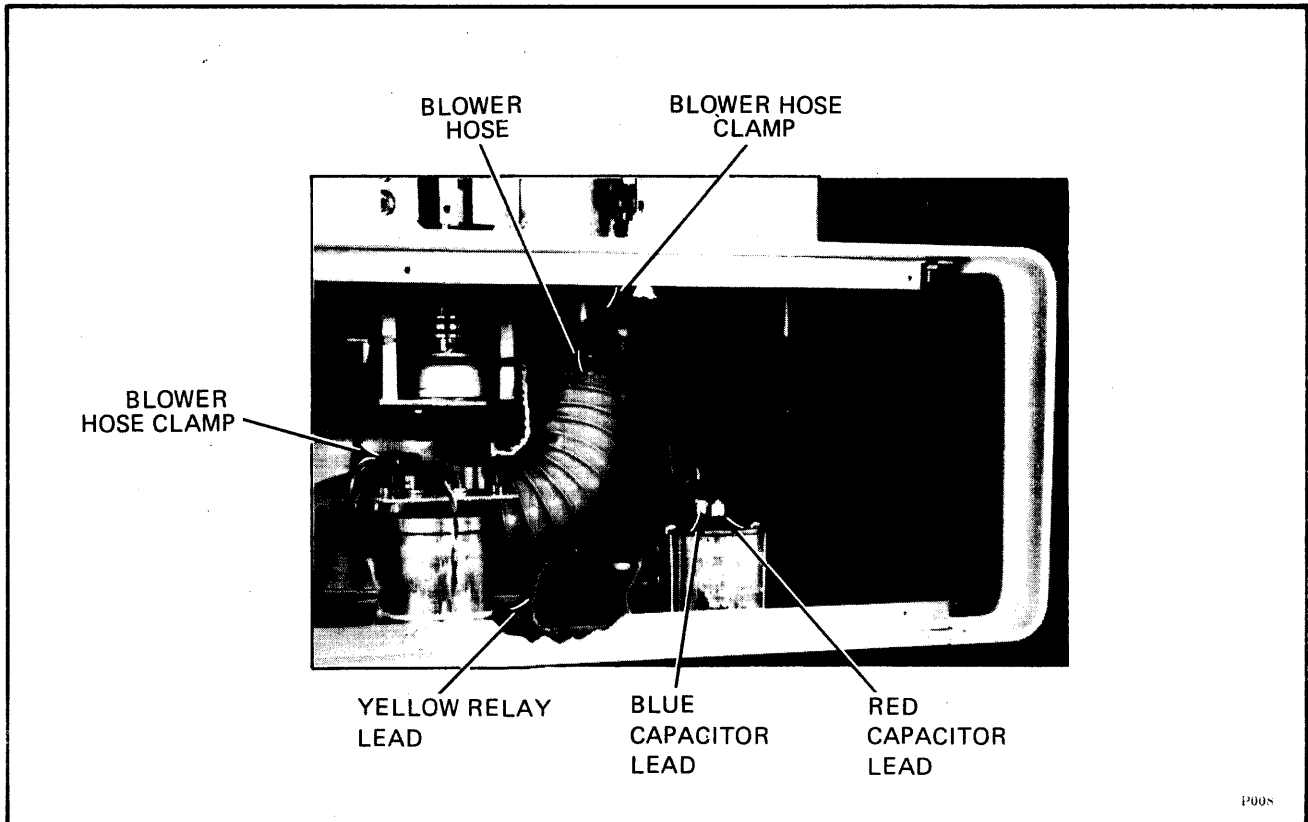

Figure 9-8. Vacuum Pump Assembly Connections
- d. Remove two connectors from capacitor and one connector from relay to disconnect vacuum pump motor, Figure 9-8.
9. Loosen screw on two blower hose clamps; remove blower hose, Figure 9-8.